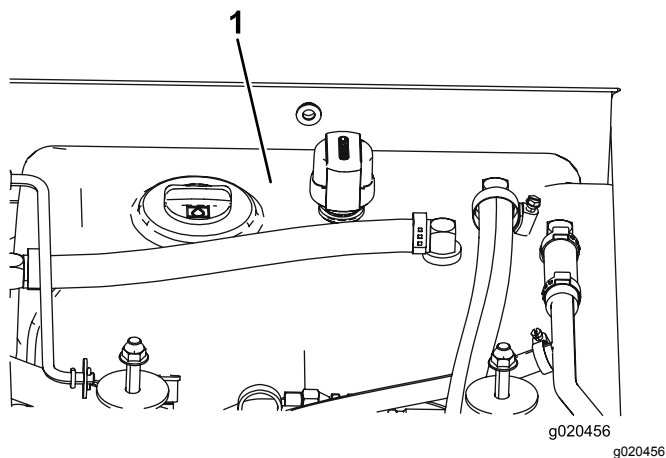

Figure 78
4. Fill the reservoir (Figure 78) with hydraulic fluid; refer to Checking the Hydraulic Fluid \(page 61\).